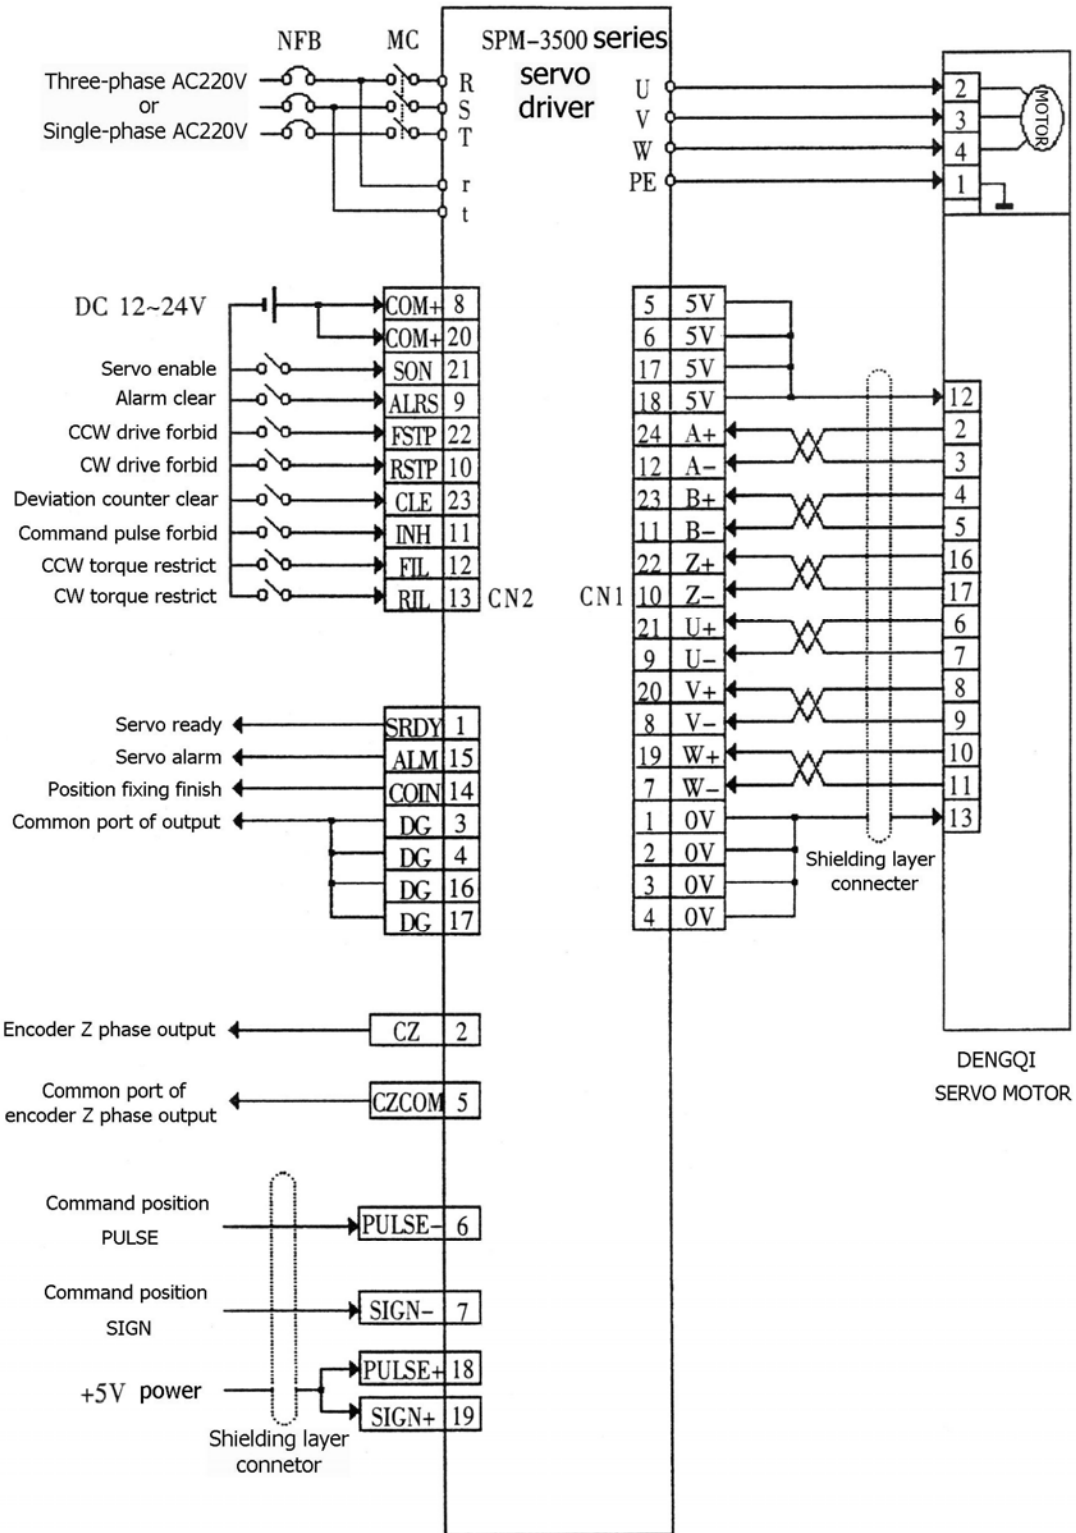

Fig 5.4 Standard wiring for position control mode between the driver and DENGQI servo motor
- 4) Fig 5.4 shows: The standard wiring for position control mode between the driver and DENGQI servo motor;